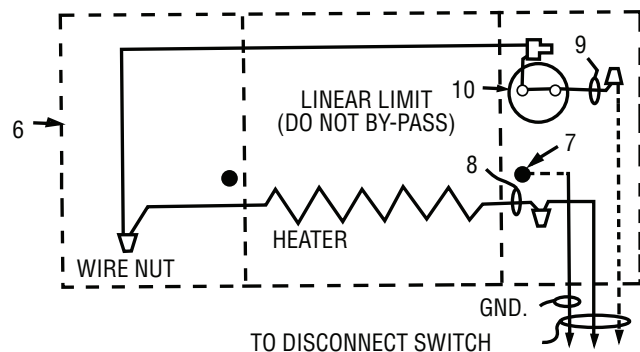

Figure 3. Single Unit Installation
3. All wiring procedures and connections shall be in accordance with the National Electrical Code (NEC) and applicable local codes. Refer to Wiring Diagrams, Figures 3 and 4. Make sure all electrical connections are tight to prevent possible overheating. Use Copper Supply Wire Only.
5. Following wiring diagram, Figure 3, make electrical connections in junction box by removing wire nut from heater wires (8 & 9) and making electrical connection to supply wires. Connect ground wire to green grounding screw (7) in junction box.
IMPORTANT NOTE: This heater is provided with an over-temperature limit control (Linear Limit) - see Figures 3 and 4. This safety control is provided to cycle the heater off to maintain safe temperatures in the event of a blockage or other abnormal condition. DO NOT remove or bypass this important safety control as it is provided to limit the temperatures and prevent a possible fire in the event the heater is subjected to an overheating condition. If it is determined that the heater is cycling off on the safety control during normal use, discontinue using the heater until it can be inspected and repaired by a qualified service personnel.